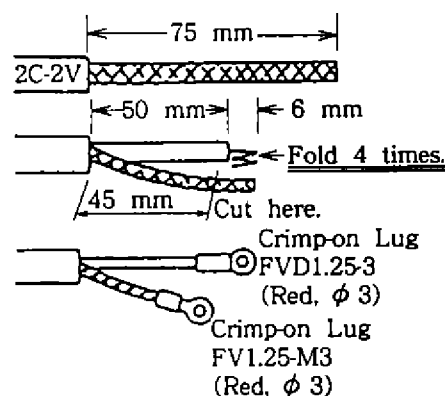
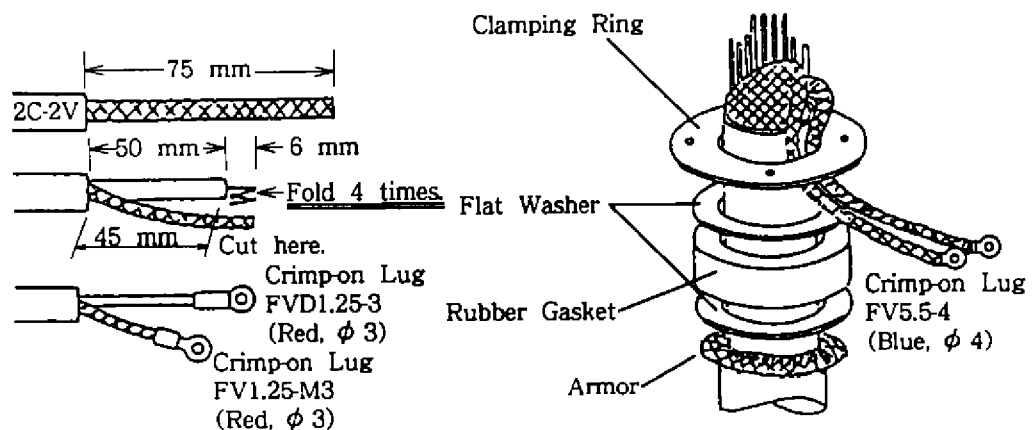

Figure 2-6 Fabricating the coaxial wire
Figure 2-9 Fabricating the coaxial wire
- 7) Connect the signal cable to the terminal board RTB801 by referring to the interconnection diagram. Leave "slack" in the coaxial wire to prevent breakage. See Figure 2-6 or Figure 2-9.
- 7) Fabricate the coaxial wire as shown in Figure 2-6. Make the length 10 mm longer than the shield to prevent wire strain. Attach crimp-on lug FVD1.25-3 (red,  $\phi 3$ ).
- 7) Fabricate the coaxial wire as shown in Figure 2-9. Make the length 10 mm longer than the shield to prevent wire strain. Attach crimp-on lug FVD1.25-3 (red,  $\phi 3$ ).